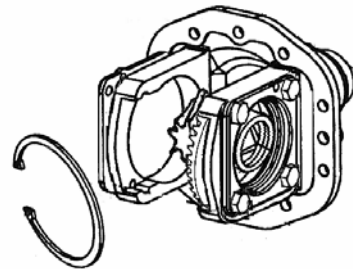

Fig.6-15
- 6) Remove the clamping bolts from both diff-metals(RH and LH) and pull the metals out with push bolts.assuring parallelism of the ring gear and bearing(Fig.6-15)
- 9) Remove the snap ring and the bevel pinion can then be removed together with the TRB's (Fig.6-15)